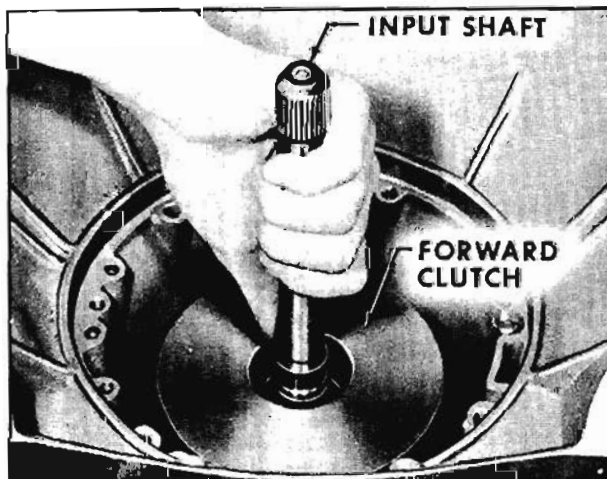

Fig. 6-274 Removing Input Shaft
1. Remove input shaft from forward clutch drum. (Fig. 6-274)